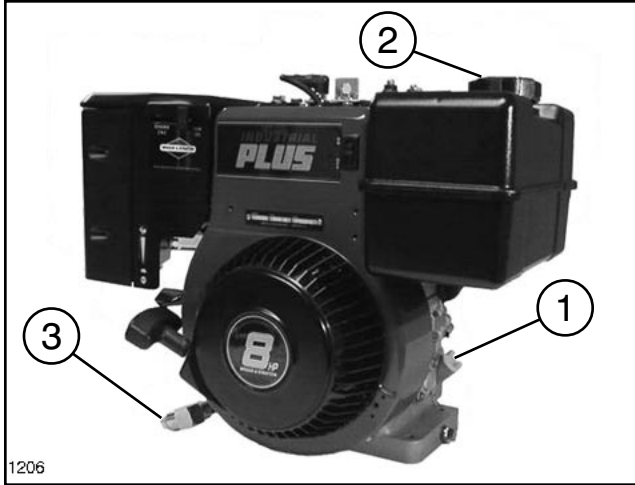

FIG. 1
1. Clean area around fuel tank cap so foreign matter cannot enter tank when cap is removed. See FIG. 1.